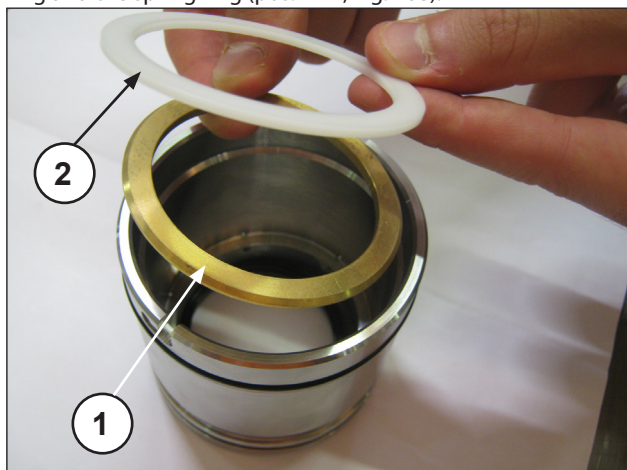

Fig. 166
Install the support ring and the back-up ring (pos. ①②, Fig. 166), the three packings, making sure the notches are at 120° from each other (pos. ①, Fig. 167), the packing scraper ring and the spring ring (pos. ①②, Fig. 168).